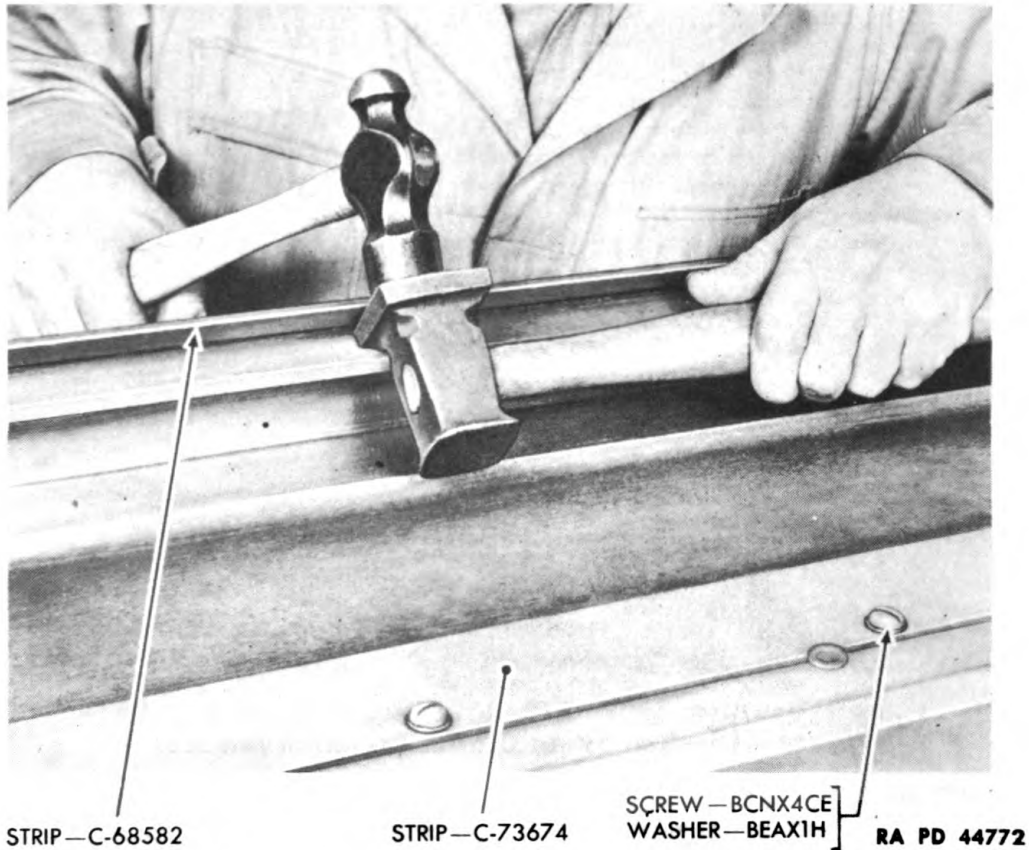

Figure 120—Straightening Cradle Guide Cover Strip
(1) If not too badly bent, straighten the deformed cradle guide cover strip without removing it from cradle (fig. 120).
(2) If badly bent, remove strip by removing screws BCNX4CE and washers BEAX1H, and install a new strip.